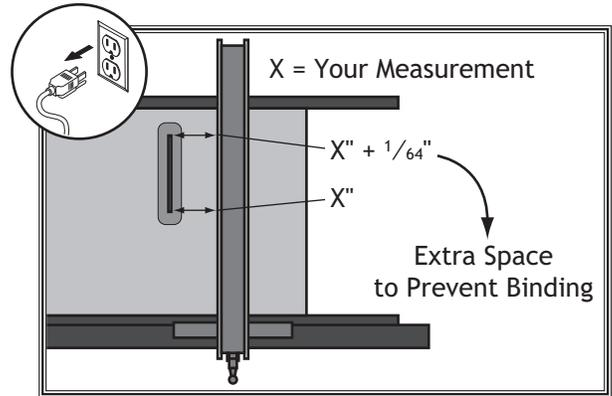

Figure 118. Adjusting fence with a $\frac{1}{64}$ " offset.
Some woodworkers prefer to offset the rear of the fence $\frac{1}{64}$ " from the blade, as shown in **Figure 118**, to help prevent the workpiece from binding and burning.
4. Measure distance between tooth and fence face, as shown in **Figure 118**.